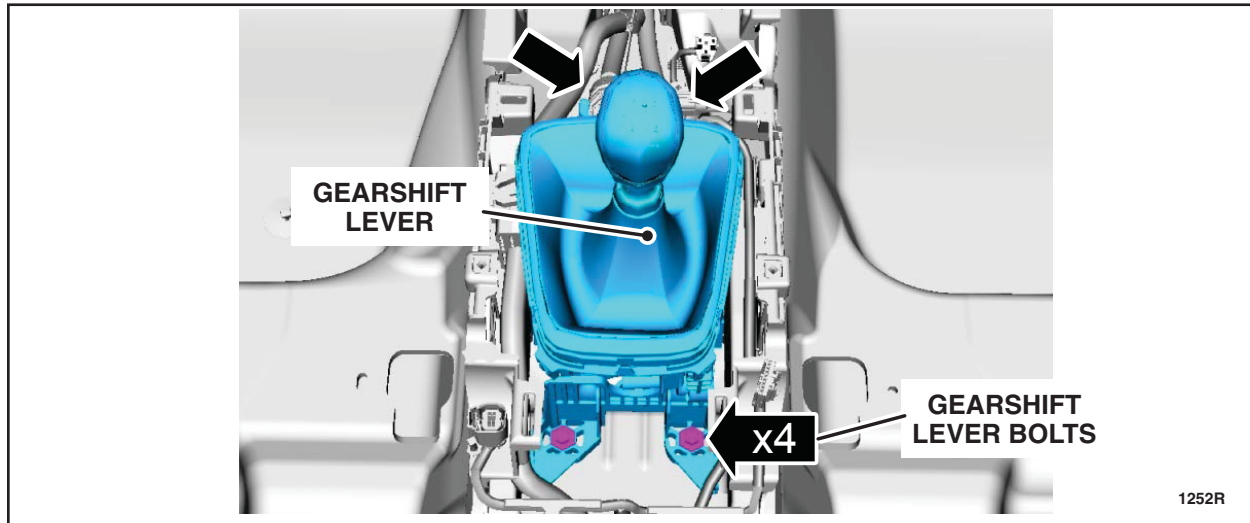

FIGURE 14
25. Remove the four bolts and the gearshift lever. See Figure 14.
12. Install the gearshift lever and tighten the four bolts. See Figure 14.